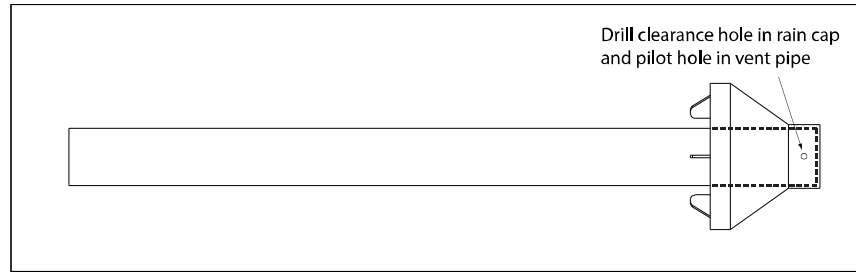

FIGURE 5: Using Stainless Steel Screw for Rain Cap Installation
NOTE: The 2-1/2 inch (64 mm) diameter pipe may be secured to the rain cap with a stainless steel screw rather than cement to provide access for future maintenance of the vent. See Figure 5 for reference.
- A clearance hole must be drilled in the rain cap and a pilot hole must be drilled in the 2-1/2 inch (64 mm) vent pipe if the two are going to be joined using a screw. See Figure 5. If these holes are not drilled, the PVC components may crack when the screw is inserted. Failure to follow this procedure may cause recirculation or combustion products which could result in personal injury or death.